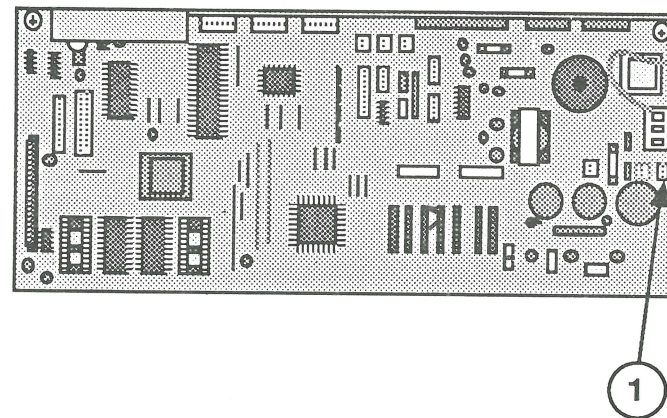

FIGURE 44
3. Disconnect the auto-load solenoid cable from main board connector CN8 (Figure 44, #1).